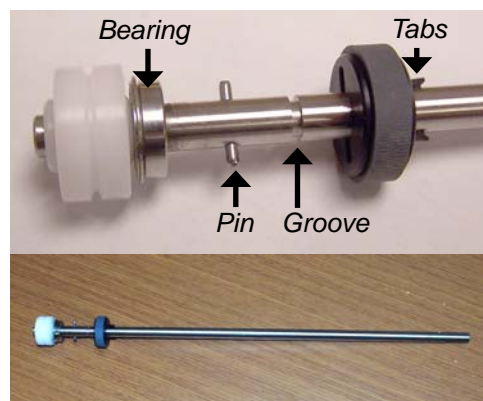

Figure 5-51 Drive Shaft Components
4. Unsnap roller from groove in shaft. See Figure 5-51.